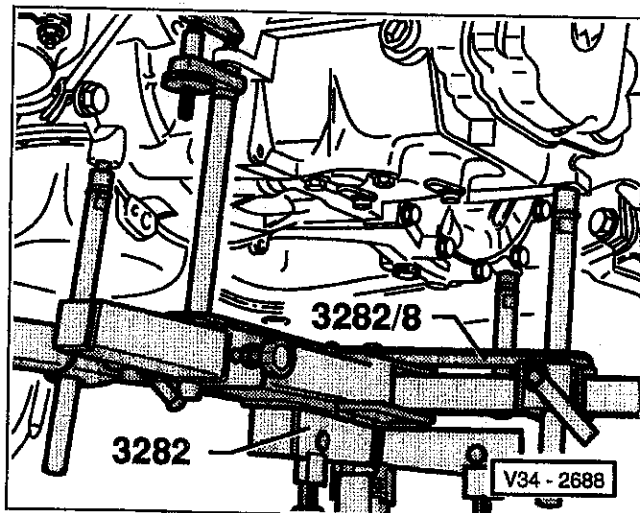

Fig. 24. Transmission jack correctly positioned under transmission. Numbers shown are for VW transmission jack and adapters.
28. Place transmission jack under vehicle. See Fig. 24.